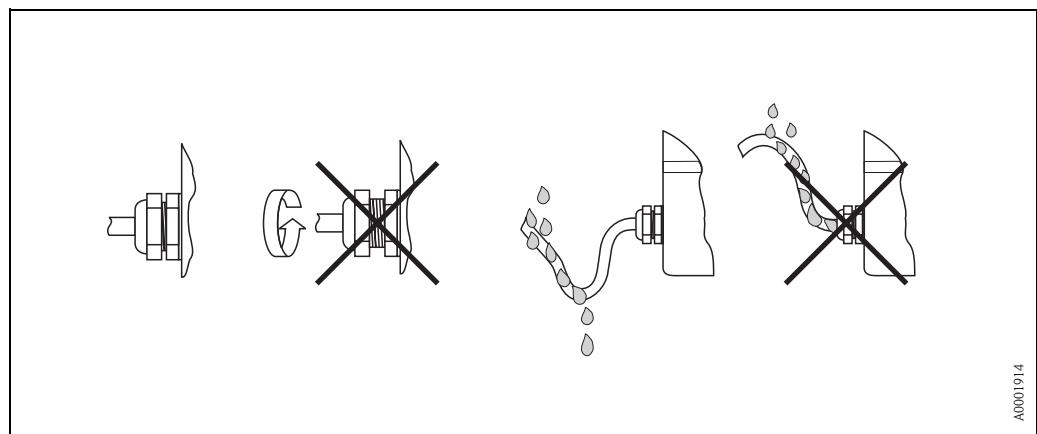

Fig. 14: Installation instructions, cable entries
- Firmly tighten the cable entries (Fig. 14).
- The cables must loop down before they enter the cable entries (“water trap”, Fig. 14). This arrangement prevents moisture from penetrating the entry. Always install the measuring device in such a way that the cable entries do not point up.